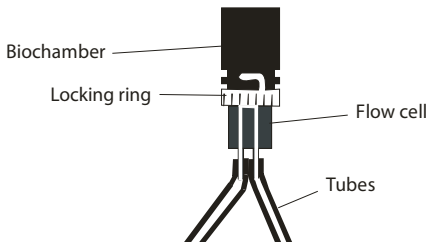

Fig. 7: Biosensor equipped with a flow cell.
It is possible to measure  $\text{NO}_x^-$  or  $\text{NO}_2^-$  concentrations in very small samples (down to 5  $\mu\text{L}$ ), by using a flowcell mounted on the biosensor (fig. 7).
1. Mount the flow cell on the “dummy” biochamber that came with the flow cell. The flow cell must be mounted according to Fig. 7. There are 4 stubs on the flow cell that fit to 4 depressions on the biochamber. The flow cell is fastened with the white locking ring. Ensure that the depressions on the biochamber of the sensor, are free of membrane material.